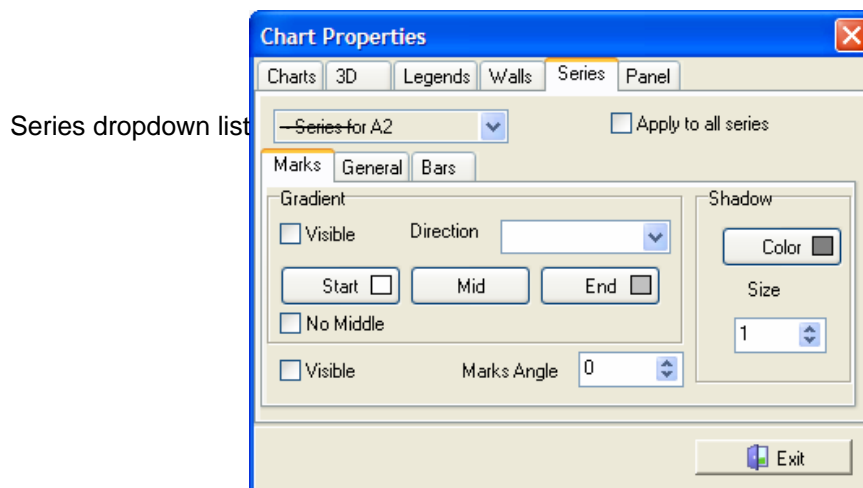

Figure 7.28 Chart Properties dialog box, Series tab, Marks settings
1. To view the series properties for an open chart(s), click the Series tab in the Chart Properties dialog box (Figure 7.28).